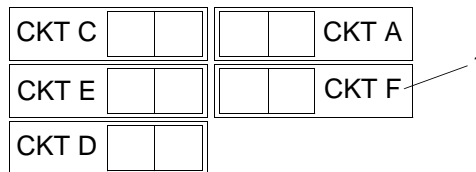

Figure 1. Circuit Breaker F
- At the generator container electrical distribution panel, set circuit breaker F (figure 1, item 1) to OFF and tag out (FM 55-502).